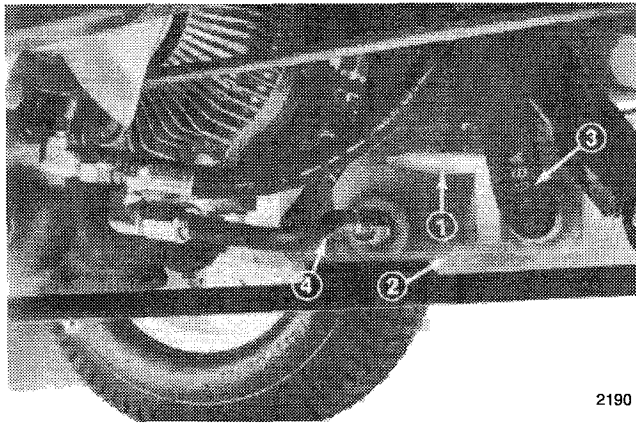

Figure 34
2. Clean the area around the hydraulic oil filter and remove the filter from the bottom of the filter housing. Use bottom type filter wrench (Fig. 34).
3. Disconnect tube assembly and hose assembly from reservoir and allow the oil to flow into a drain pan (Fig. 34).
4. Install the new hydraulic filter onto bottom of the filter housing (Fig. 34).
5. Install the tube assembly and hose assembly to reservoir (Fig. 34).
1. Remove hydraulic oil filter from mounting head. Use bottom type filter wrench (Fig. 34). Dispose of filter properly.